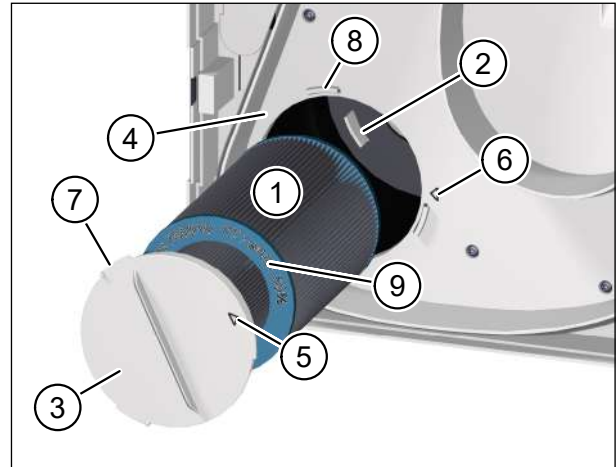

Fig. 19: Inserting the new outdoor air filter
- ▶ Carefully guide the new outdoor air filter (item 1 in Fig. 19) into the ventilation unit.
- ▶ Make sure that the air filter slides into the 3 retaining tabs (item 2 in Fig. 19) on the back wall of the ventilation unit.
- ▶ Place the filter cover (item 3 in Fig. 19) on the outdoor air filter. Make sure that the filter cover lies flat on the intermediate plate (item 4 in Fig. 19).
- ▶ Turn the filter cover clockwise until the arrow on the filter cover (item 5 in Fig. 19) lines up with the arrow for the locking position (item 6 in Fig. 19). Make sure that the 3 tabs (item 7 in Fig. 19) on the filter cover engage in the retainers (item 8 in Fig. 19) on the intermediate plate.
- Only M-WRG-II FA, part no. 750010, and M-WRG-II FK (activated charcoal filter), part no. 750020, may be used as the outdoor air filter. The part no. and air filter class are imprinted on the turquoise end plate of the air filter (item 9 in Fig. 19).